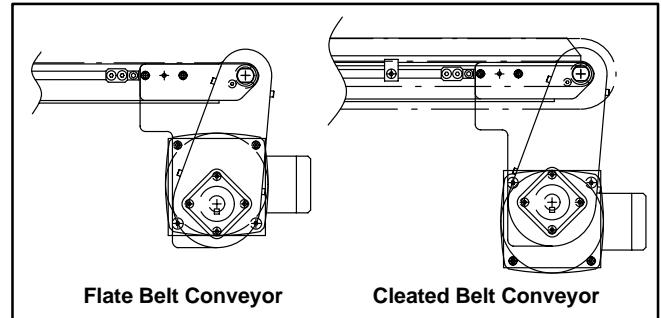

Figure 17
**NOTE:** Gearmotor position on Flat Belt conveyor shown below left (Figure 17). Gearmotor position on Cleated Belt conveyor shown below right (Figure 17).